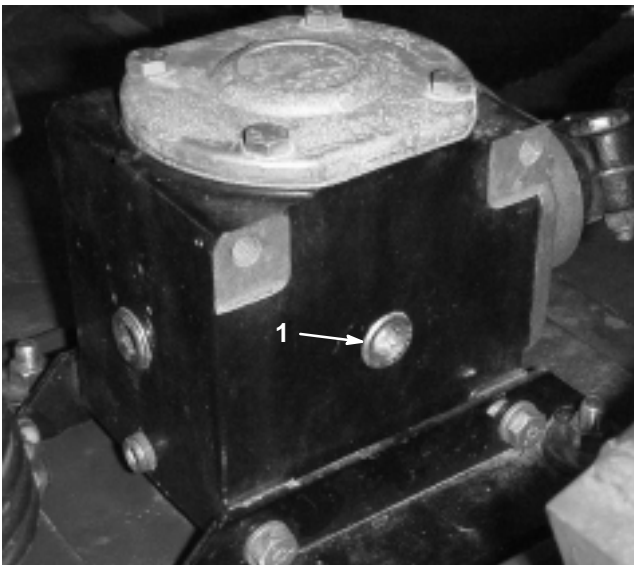

Figure 16
2. Remove the fill/check plug from the side of the gear box (Fig. 16) and make sure that the lubricant is up to the bottom of the hole. If the lubricant level is low, add enough lubricant to bring it up to the bottom of the hole.